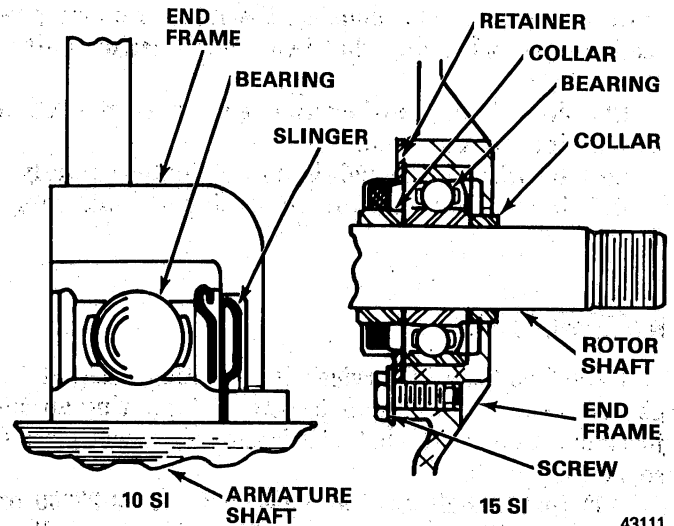

Fig. 1E-15 Front Housing Bearing Assembly
- (14) Attach brush holder to rear housing. Carefully note position of insulating washers (fig. 1E-14). Allow toothpick to protrude through hole in rear housing.
- (15) Install diode trio terminal strap attaching screw and insulating washer.
- (16) Tighten remaining two brush holder screws securely.
- (17) Position bridge rectifier on rear housing with insulator inserted between insulated heat sink and rear housing.